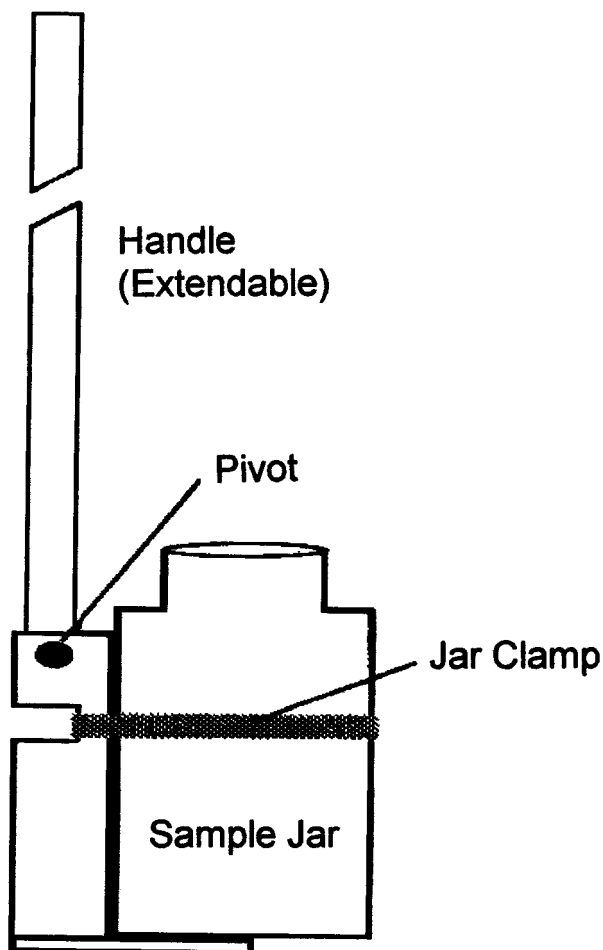

FIG. 3 Swing Jar Sampler
6.3.1 Description—This sampling device consists of a pole that screws into a bottle holder (see Fig. 3). The angle of the bottle with respect to the pole can be varied.